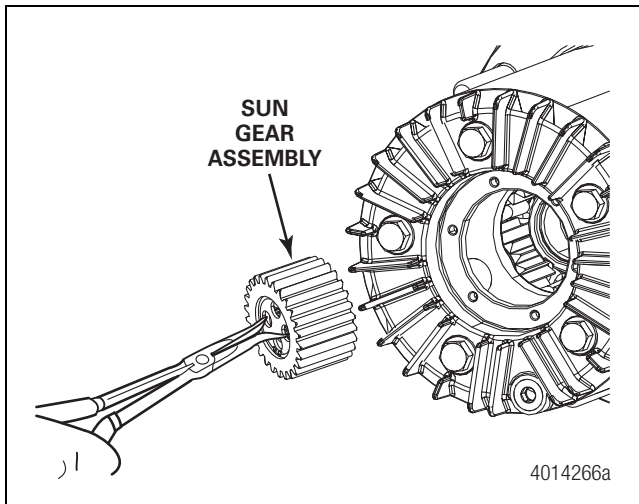

Figure 4.4
- Use pliers to secure and remove the sun gear assembly from the hub housing. Figure 4.4.